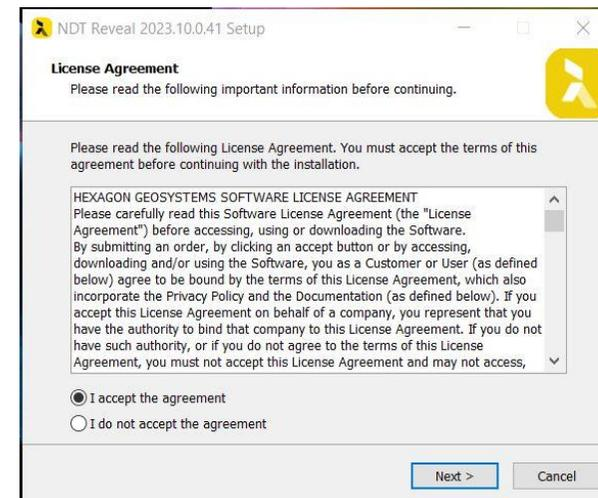

Fig. 2 Accept Hexagon Geosystems license Agreement
2. Accept the **Hexagon Geosystems License Agreement** and press NEXT (Fig. 2),